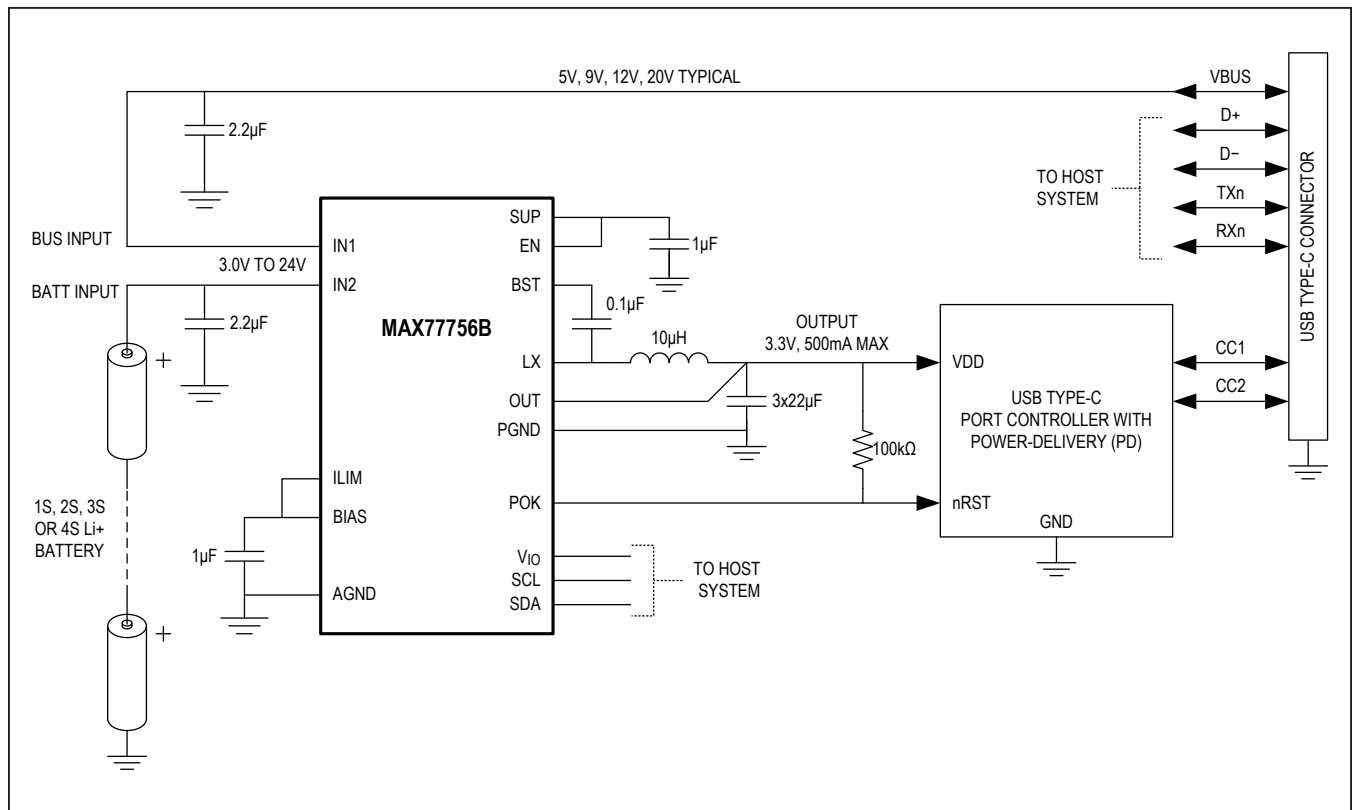

Figure 13. USB Type-C PD Port Controller Power Supply
The MAX77756 is ideal for battery-powered systems/gadgets that use USB type-C with power delivery (PD) to charge. These systems require a PD port controller to monitor device attachment to the USB port, determine roles of the attached device, and negotiate for PD volt-ages. See Figure 13. Applications that use the MAX77756 to power the PD controller benefit in the following ways: